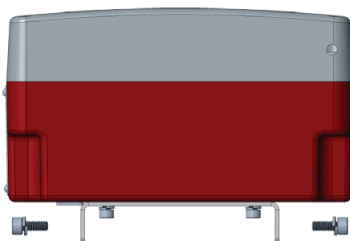

Fig. 12
5. Insert a wire for earth ground under the grounding bracket (see Figure 12 ) and screw it down tight.